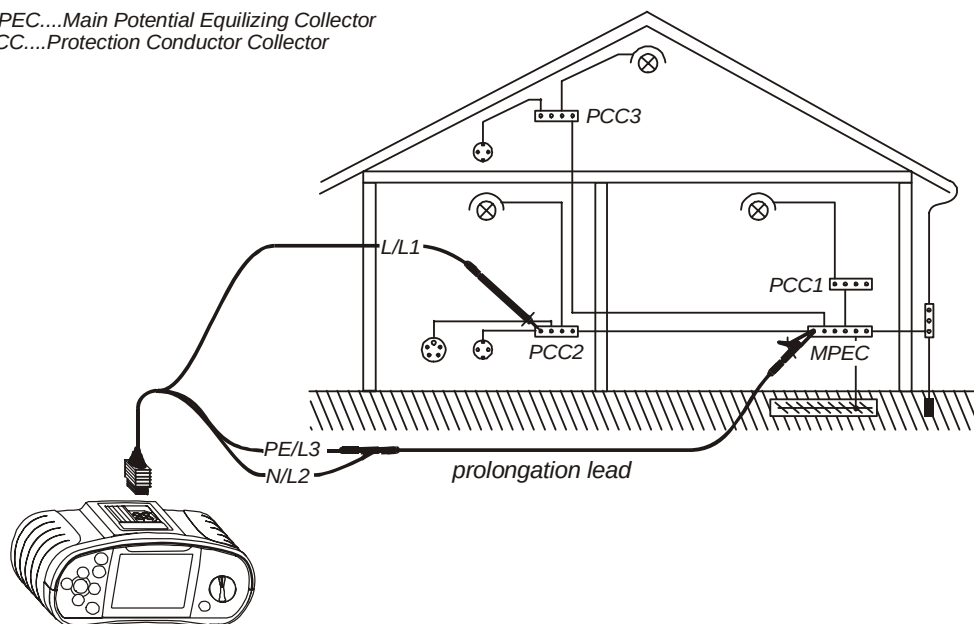

Figure 5.6: Connection of universal test cable and optional probe test lead
Step 4 Ensure that the item for testing is disconnected from any voltage source and it has been fully discharged. Connect the test cables to the item under test. Follow the connection diagrams shown in figures 5.6 and 5.7 to perform a **Low Ω resistance** measurement.